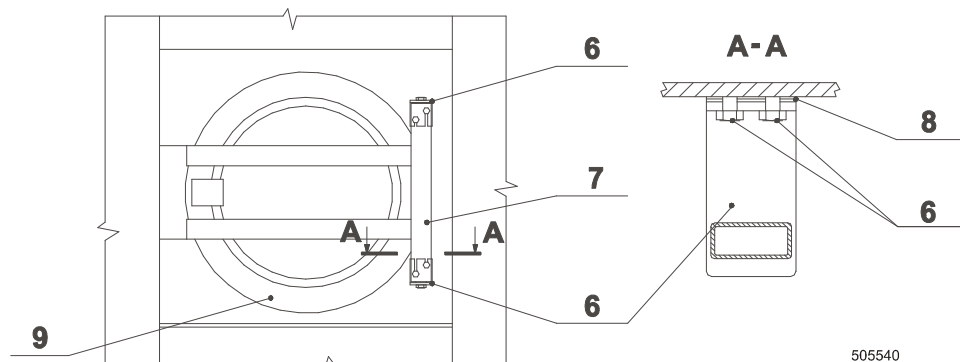

Fig.5.2.1.B Door fastening
1. Open the door. Remove the door glass (fig.5.2.1.A., pos.3) with rubber (pos.2) from the stainless steel door (pos.5) by pushing it towards the drum. Do it carefully, do not damage the glass.
2. Remove the seal (pos.4) from the glass.
4. Moisten the seal groove (pos.2) for door with soap water. Place a smooth cord in the groove all around. Tighten up the margin by cord and fit the unit to the door opening (pos.5) (with the clip up). Hold one end of the cord firmly on the door. Pull the other cord end towards the center of the glass for the rubber edge properly fit in.